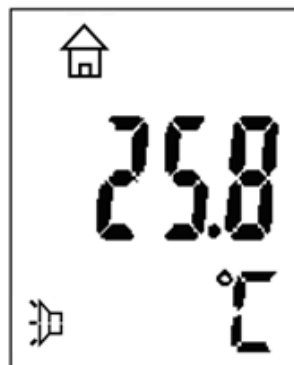

Figure 11
In ear or forehead mode hold START button ⑥ for 2 seconds the ambient or object temperature will displayed on LCD. See figure 11.